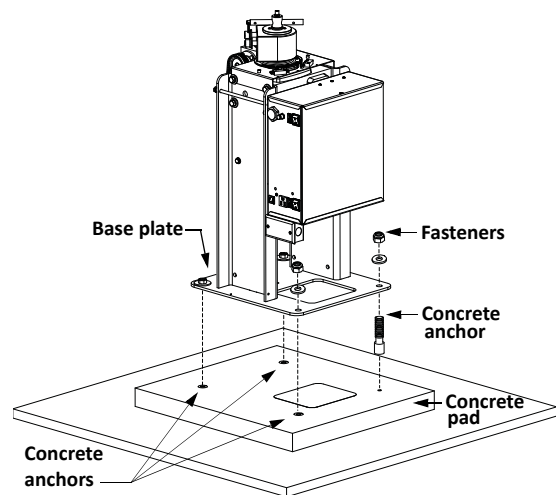

Figure 1-6.
4. Mount the operator with four $\frac{1}{2} \times 3\frac{1}{2}$ -inch concrete anchors as shown in Figure 1-6.